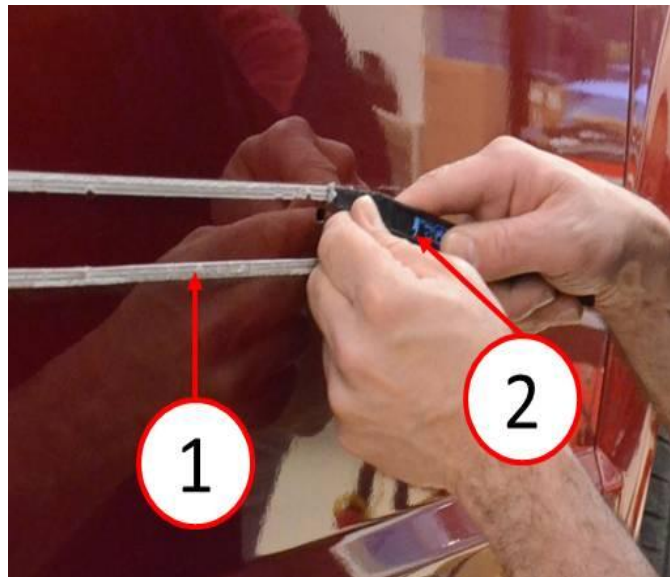

Fig. 3 Removing Adhesive
3. Remove adhesive residue from the door panel with 3M General Purpose Adhesive Cleaner 08984 or equivalent using a trim stick C-4755 (Fig. 3).